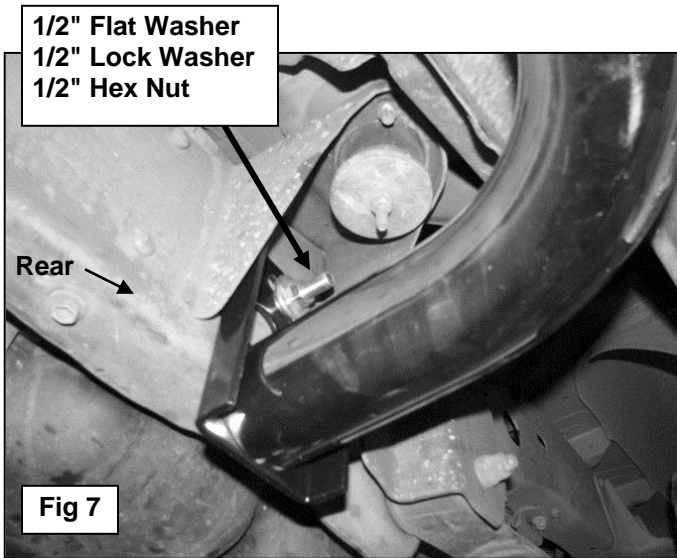

Fig 7
4. Move towards the rear of the vehicle and locate the factory hole in the frame below the rear body mount, **(Figure 5)**. Select the driver side Rear Mounting Bracket. From the back of the frame channel, insert (1) 1/2" x 2" Hex Bolt with (1) 1/2" Flat Washer through the factory hole. Line up the horizontal top slot in the Bracket with the Hex Bolt, **(Figure 6)**. Attach the Rear Mounting Bracket to the Hex Bolt with the supplied (1) 1/2" Flat Washer, (1) 1/2" Lock Washer and (1) 1/2" Hex Nut, **(Figure 7)**. Hand-tighten hardware only at this time.